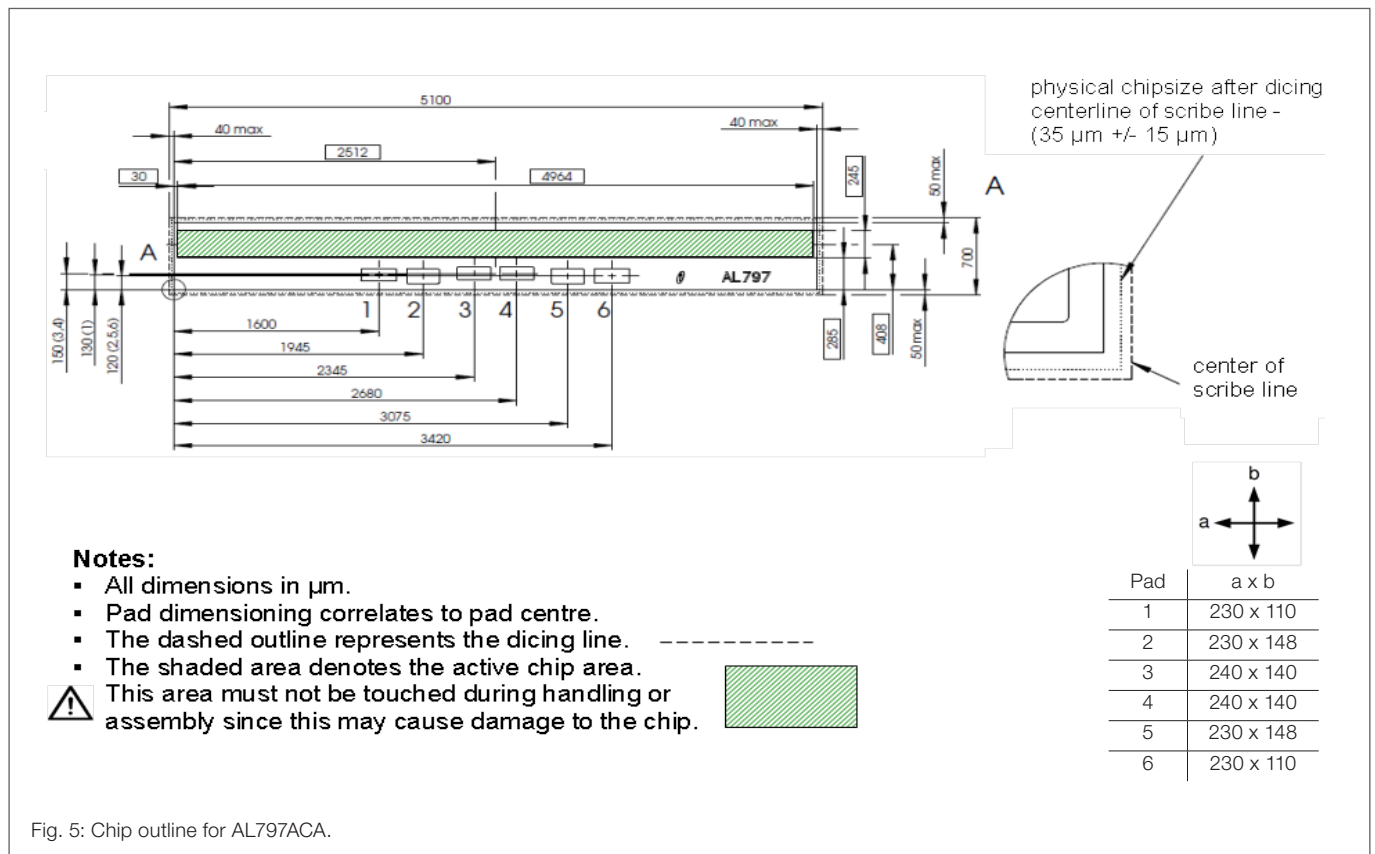

Fig. 5: Chip outline for AL797ACA.
1) Tolerances of chip size see Fig. 5.